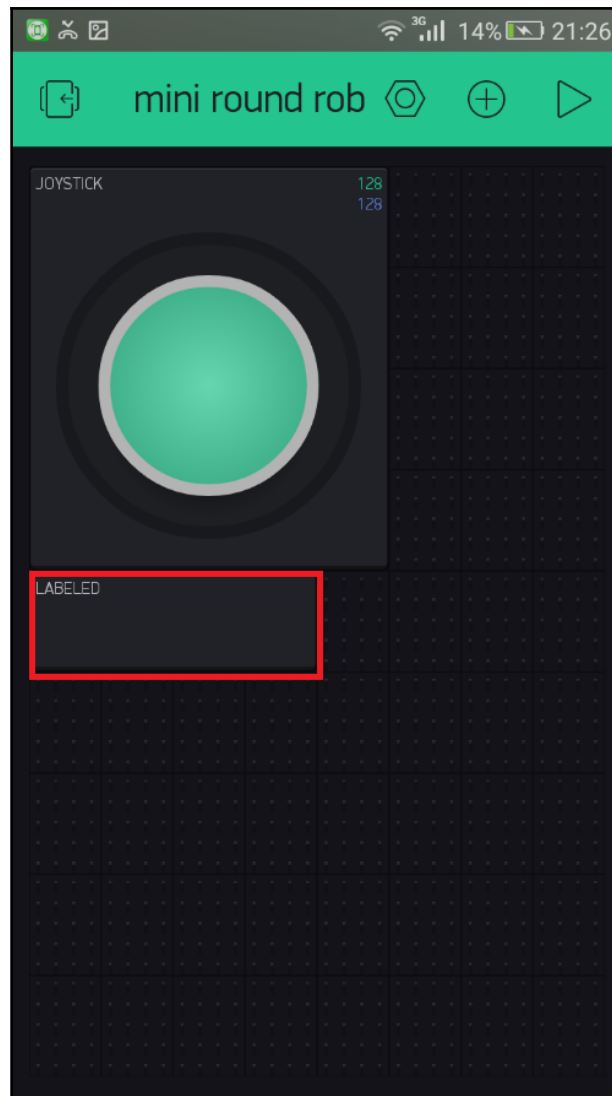

Figure 3.7: The Labeled Value widget placed on the canvas
3. A **Labeled Value** widget will add to the canvas with a default name, **LBELED**. Now, tap the **Labeled Value** widget to change its settings (*Figure 3.7*):